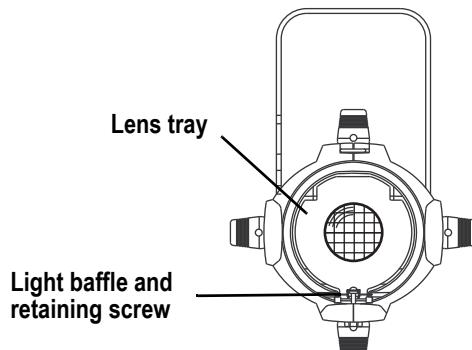

Figure 11
- Step 1: Loosen the screw at the front of the baffle. See *Figure 11*.